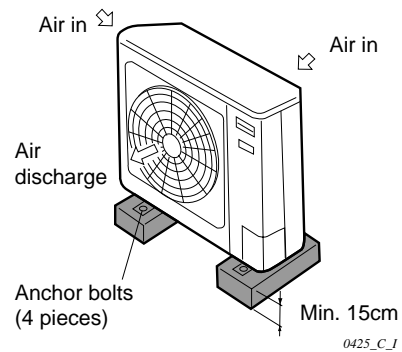

Fig.7
- provide a solid base; about 15 cm above ground level to reduce humidity and possible water damage in unit and decrease service life. Fig. 7
Refer to Fig. 7 and Fig. 8.